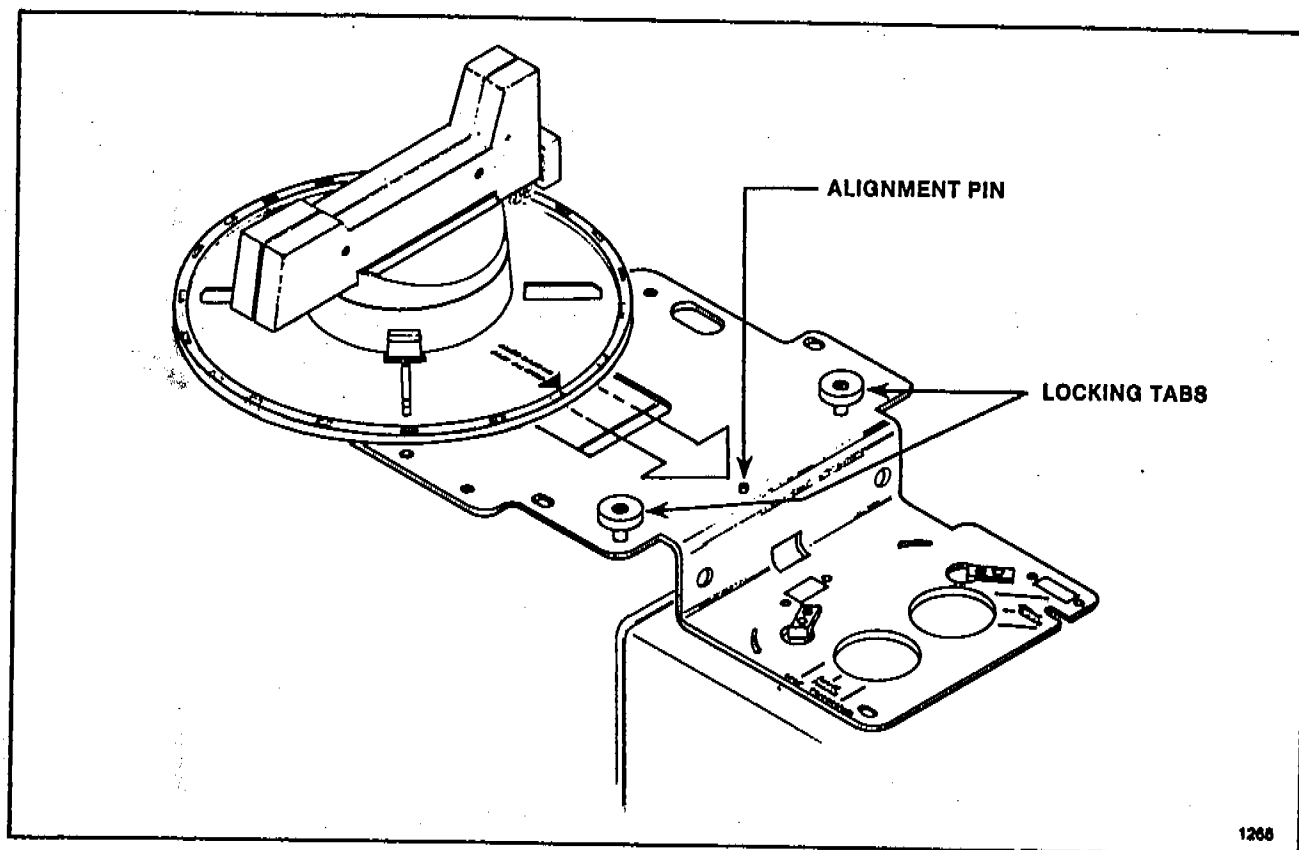

Figure 2-11. Tray Installation
2. Using Figure 2-11 as a guide, align the base of the tray with the opening in the mounting plate. Rest the tray flat on the bracket. An arrow on the tray is provided to show the direction the tray is installed.